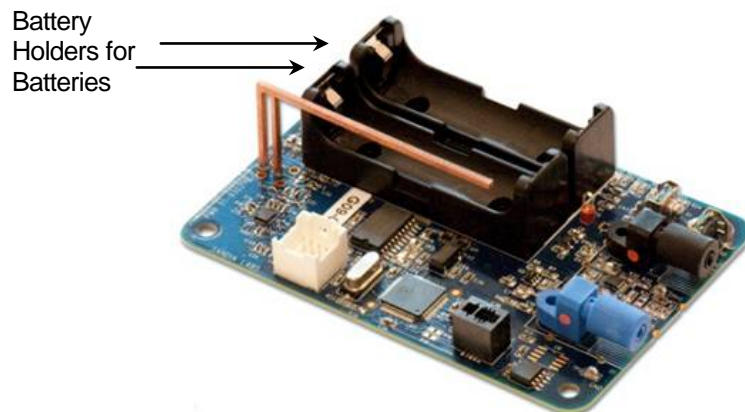

Figure 8 Battery Holders (Seal Not in Case)
- Open the Seal case. See Figure 8 below, which just shows the Seal circuit card assembly.